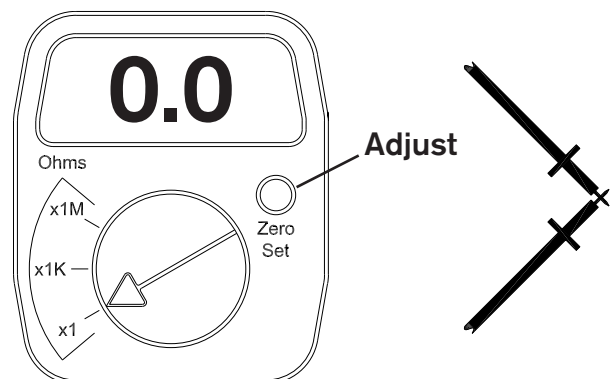

Figure 2:
3. Turn on the Ohm Meter and set it to the low ohms (x1) scale. Short the two probes together and calibrate the meter to "Zero" (See Figure 2). If your meter does not have this calibration feature, note the ohms reading. This is the residual internal resistance of the meter, probes and test leads. You will need to DEDUCT this number from the results you measure at the Access Card.